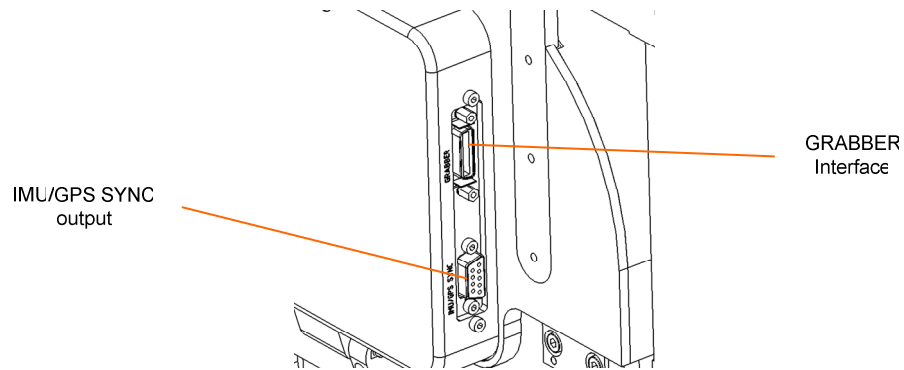

Figure 1.15: Scanner: GRABBER and IMU/GPS SYNC interfaces.
- Connect “IMU/GPS SYNC” output of the camera to “EVNT INP” input of POS AEROcontrol via EVENTS cable. (Figure 1.15)